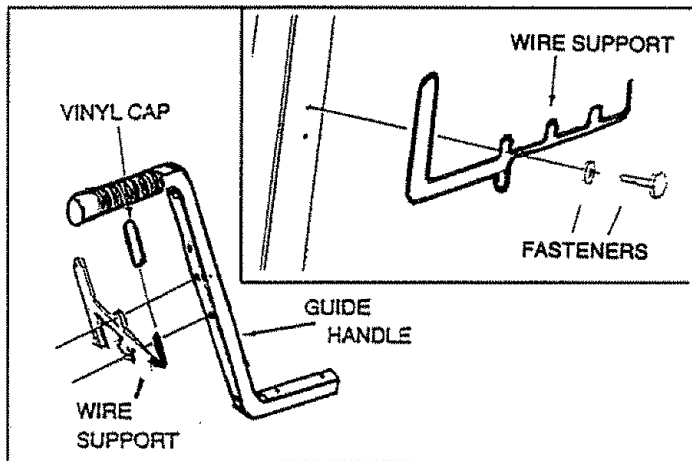

FIG. 3
- Attach wire support to two lower holes in guide handle with #10 self-drilling screws and #10 flat washers (Fig. 3). The hose minder should be to the left and gun holder to the right. Be sure loop of support is pointing upward. Place vinyl cap onto gun holder.